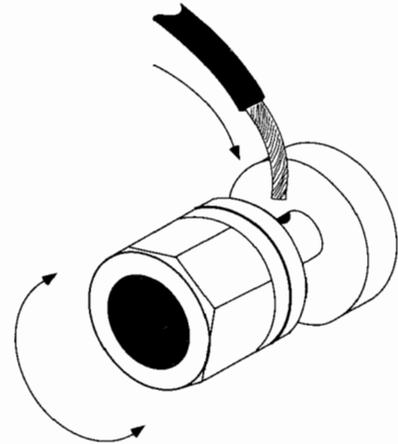

Figure 8. Bare Wire Connection
- 2) Unscrew the binding post speaker terminals and insert the wire (see Figure 8). Tighten the connection down on the wire (finger tight – do not use a wrench!).